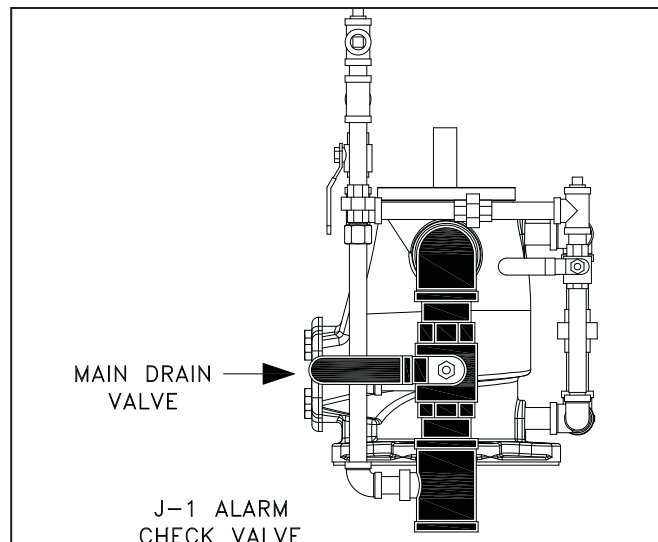

Figure 33
6. Main-drain valve, auxiliary drain valves and inspectors test valves are tightly closed (Figure 33).